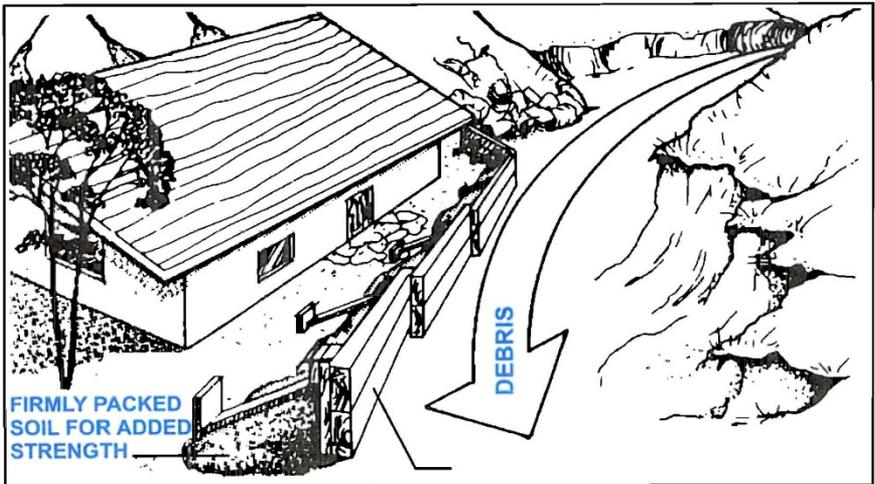

Fig. 17 TIMBER DEFLECTOR
- USE** low-grade lumber and overlap section with protruding end facing downstream (Fig. 17, page 20).
- SOIL** firmly packed behind the deflector will provide needed additional strength (Fig. 17, page 20).